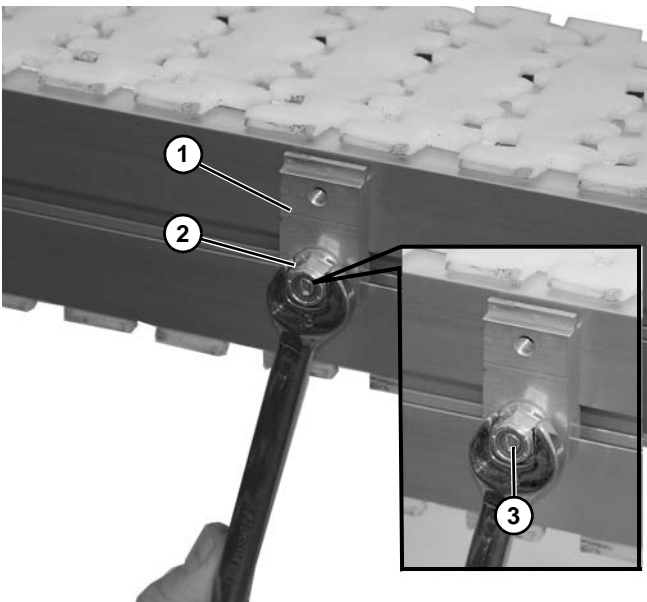

Figure 19
3. Fasten retaining clip (Figure 19, item 1) to conveyor with nut (Figure 19, item 2) on stud.
Be certain that slot (Figure 19, item 3) is close to vertical when finished tightening nut.
4. Tighten nuts (Figure 19, item 2).